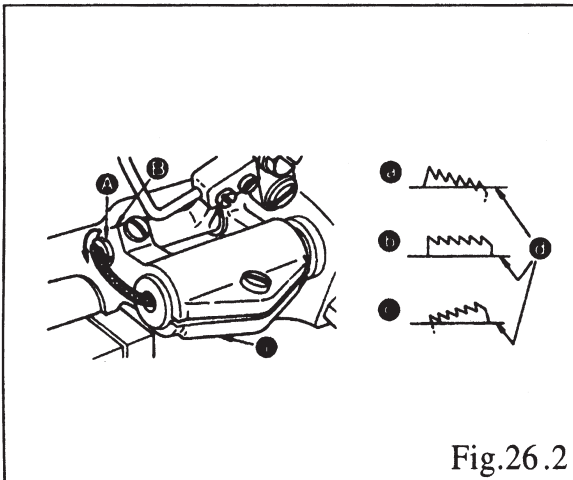

Fig.26.2
- 1) The standard tilt (horizontal) of the feed dog is obtained when marker dot ④ on the feed bar shaft is aligned with marker dot ③ on feed rocker ①
④ Front up ③ Standard ② Front down ① Throat plate
21.2.TILT THE FEED DOG(FIG.26.2)(STRAIGHT EDGE)